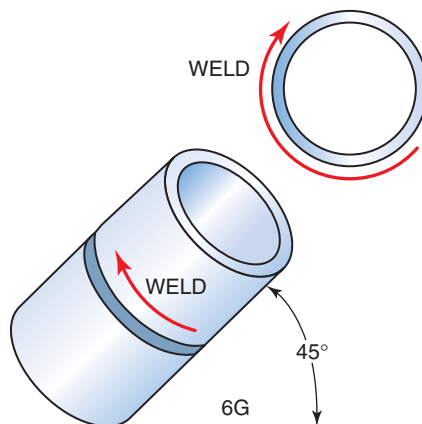

Figure 3.13 Pipe 45° inclined position
- inclined 6G—The pipe is fixed at a 45° inclined angle, and the weld is made around the pipe, Figure 3.13.